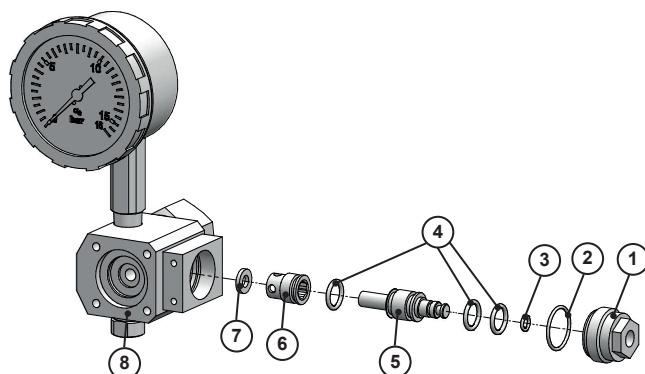

Fig. 16: Dismantling the shutoff valve
i If there are red spots on the inside of the valve body, it can continue to be used. Should the sealing surface of one of the O-rings specified in Fig. 16 "Dismantling the shutoff valve" on page 23 (pos. 2, 4 and 7) have suffered damage, replace the valve body.